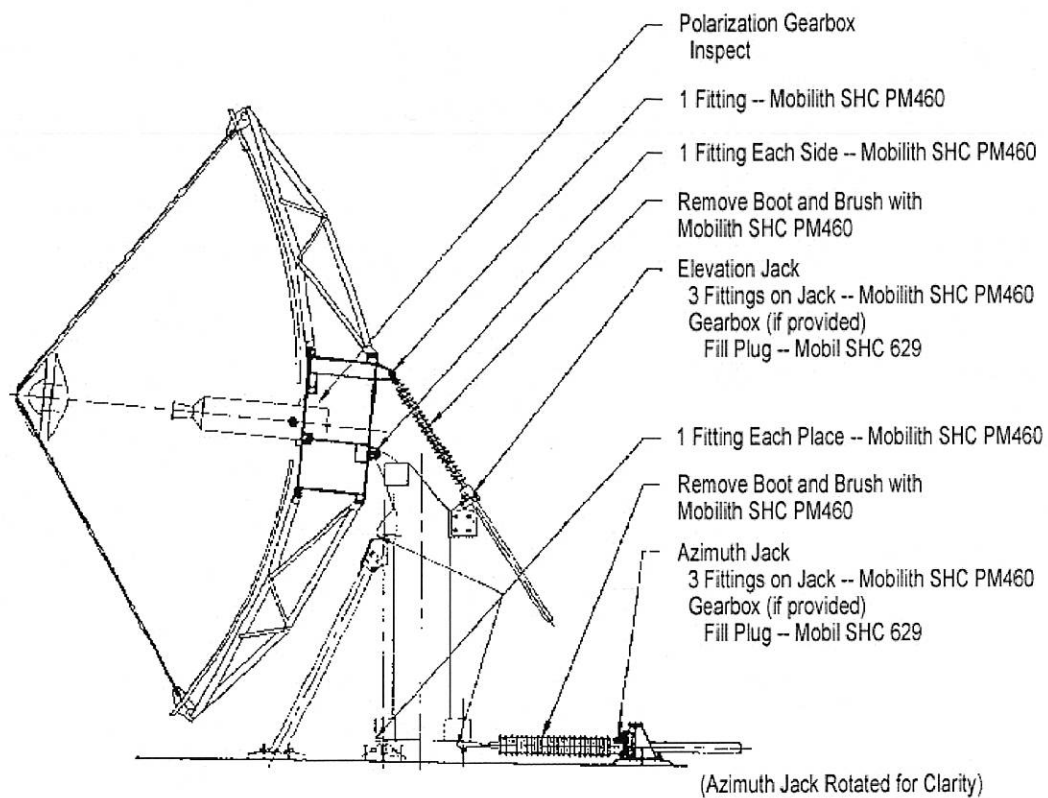

Figure 3-4b. Antenna Lubrication Points
3.4 Lubrication Schedule. Table 3.4 identifies the items on the antenna, which require lubrication. Refer also to the installation assembly drawings and figure 3.4b for locations requiring lubrication.